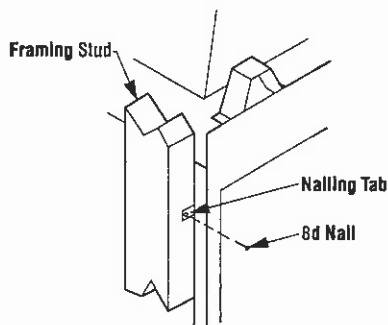

Figure 20
**Step 5.** Fireplace should be secured to side framing members using nailing flanges. Use 8d nails (Figure 20).